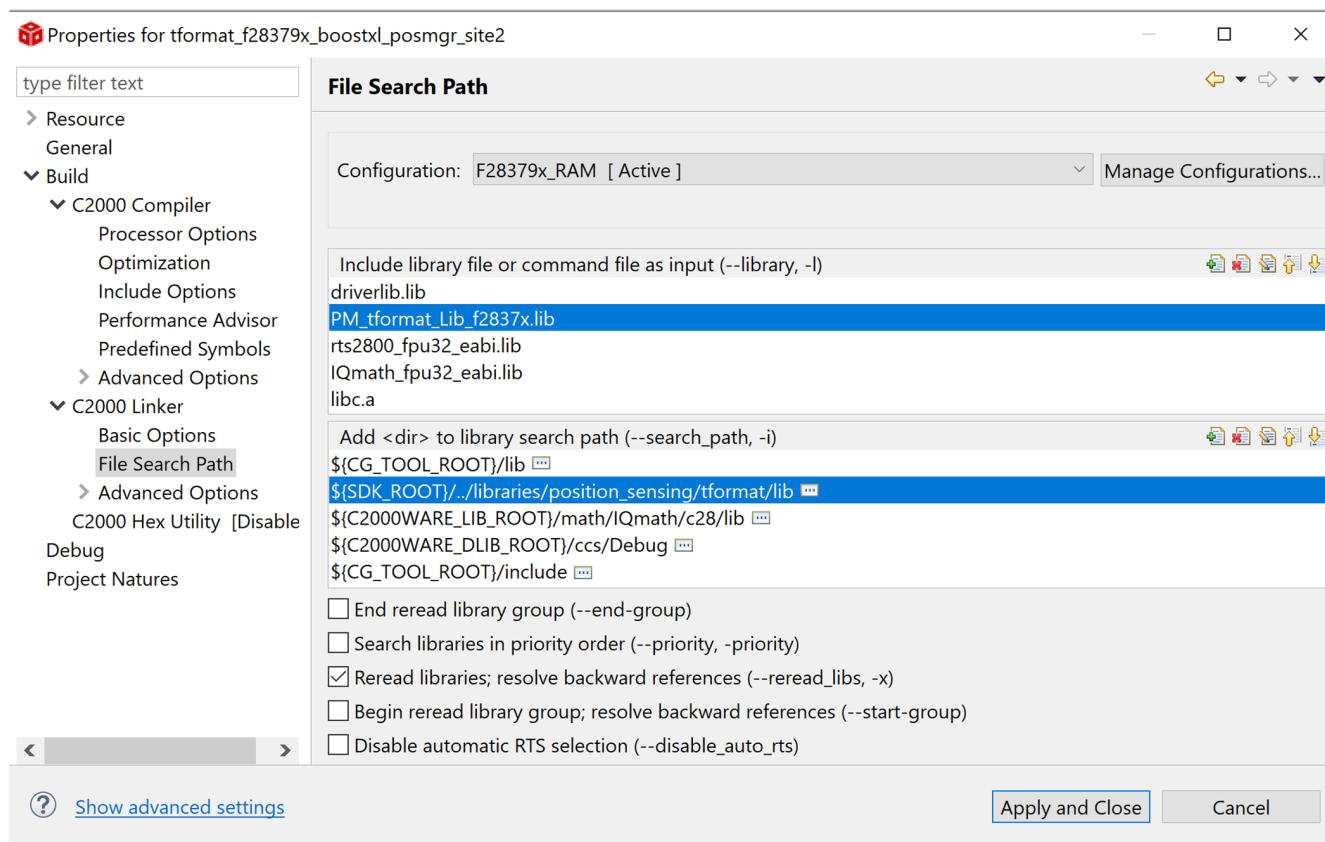

Figure 3-6. Adding PM T-Format Library to Linker Options in CCS Project
4. Figure 3-6 shows how to add the PM T-Format Library to Linker Options in a CCS Project